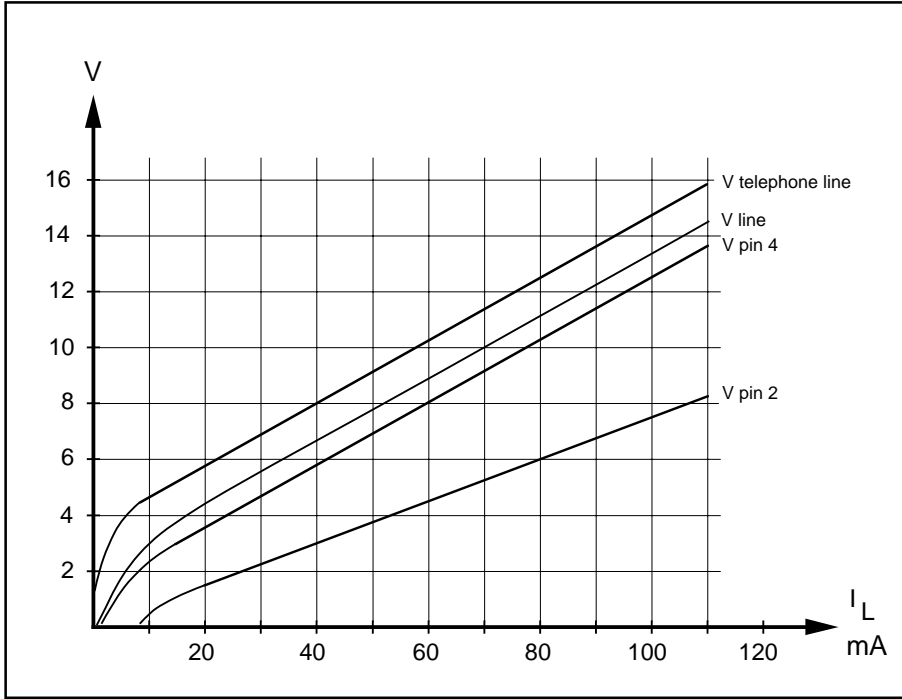

Figure 7. DC - characteristics. ($R_6 = 75\Omega$)
- The highest voltage that the telephone may have at different line currents. Normally set by the network owners specification. The lowest voltage for the telephone is normally set by the voltages that are needed for the different parts of the telephone to function. For ex. for transmitter output amplifier, receiver output amplifier, dialler, speech switching. R6 will set the slope of the DC-char. and the rest of the level is set by some constants in the circuit as shown in the equation below. The slope of the DC-char. will also influence the line length regulation (when used) and thus the gain of both transmitter and receiver. See the table under gain regulation. R6 also acts as power protection for the circuit, this must be kept in mind when low values of R6 are considered. See fig. 7.